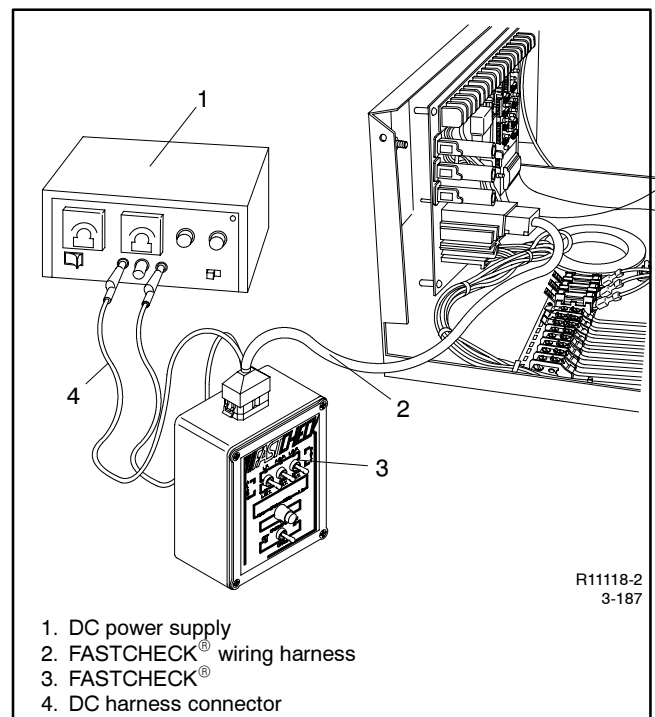

Figure 4-25 FASTCHECK® Connections
1. Unplug DC engine harness from DC harness connector (P1). See Figure 4-25.